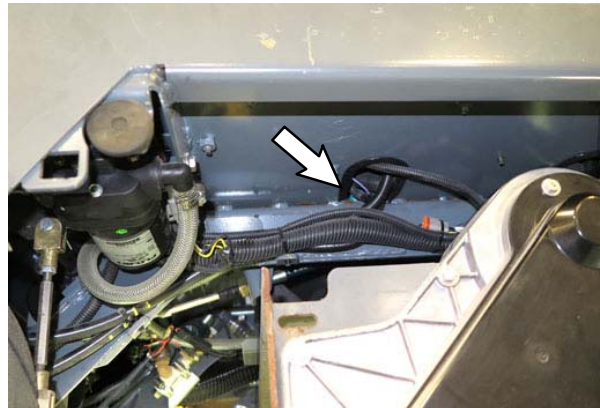

**FIG. 13**
**INSTALLATION TIP:** Secure a thin gauge wire, approximately the length of the telemetry harness (14), to the end of the telemetry harness to be connected to the shunt (10) and route the wire with the telemetry harness. This wire can then be secured to the antenna (8) wire to help route the antenna wire along the telemetry harness to the telemetry control box (1).
16. Route the telemetry harness (14) along the main wire harness / frame cross member, over the top of the scrub head, through the channel behind the scrub head, along the opposite frame cross member to the opening in the electrical enclosure. (Fig. 13, Fig. 14)